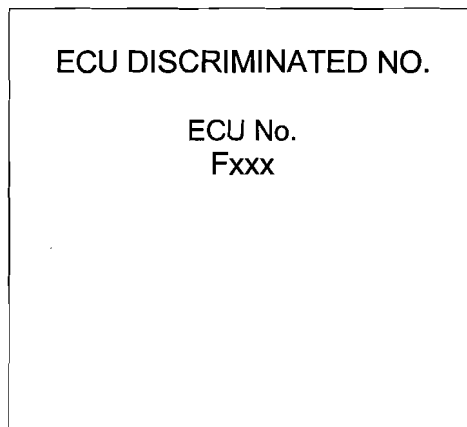

Figure 1
- Figure 1 is an example of the SRS diagnosis sensor unit (air bag diagnosis sensor unit) ECU DISCRIMINATED NO.